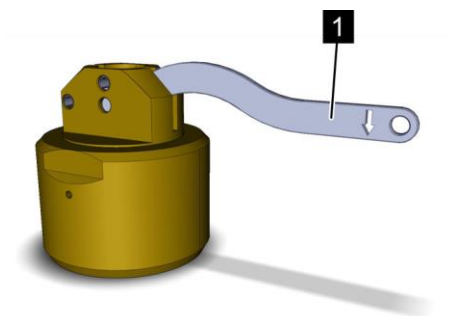

Fig. 172: Hand lever up
6. ➔ Return the hand lever (Fig. 172/1) to starting position.